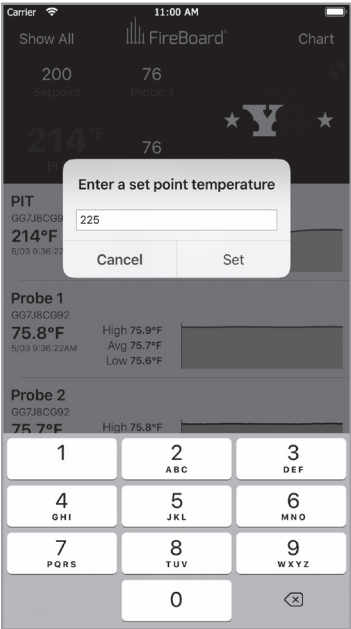

FIG 31
- You can change the pit’s setpoint by tapping on the setpoint in the gray banner (FIG 31). Simply enter your new desired setpoint and tap the “Set” button. Please note that changes to the setpoint take a few seconds to take effect. Please be patient for them to be reflected in the cooker and in the app’s dashboard.